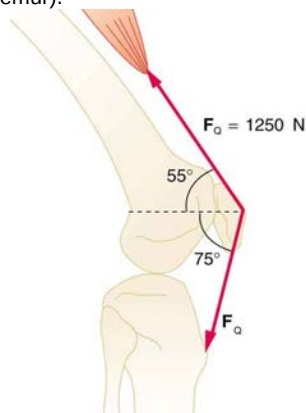

Figure 9.38 The knee joint works like a hinge to bend and straighten the lower leg. It permits a person to sit, stand, and pivot.
28. The upper leg muscle (quadriceps) exerts a force of 1250 N , which is carried by a tendon over the kneecap (the patella) at the angles shown in **Figure 9.38**. Find the direction and magnitude of the force exerted by the kneecap on the upper leg bone (the femur).